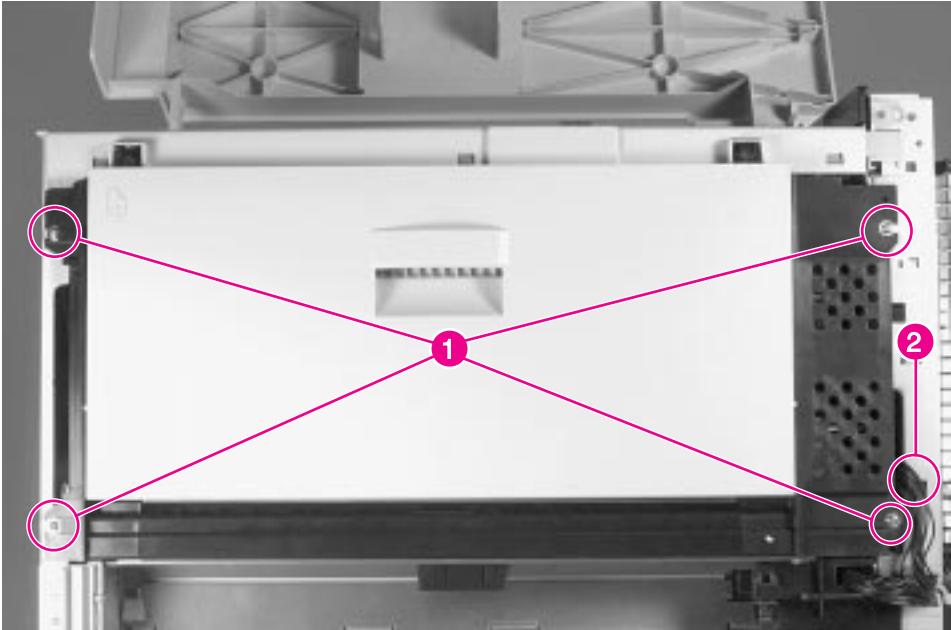

Figure 6-53 Tray 1 Assembly
- Tray 1 Assembly (see figure 6-53 on page 221)
- 4 Remove 4 screws (figure 6-53, callout 1).
- 5 Carefully pull the assembly out from the printer, and unplug the connector inside the right end (figure 6-53, callout 2).